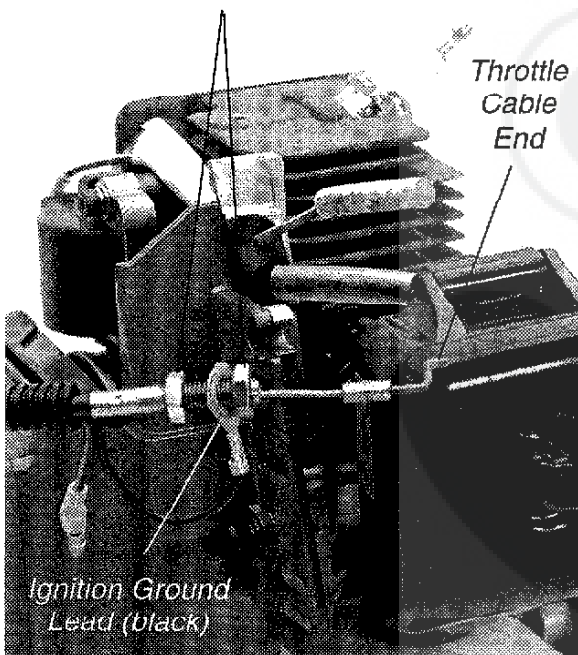

Figure 9
1. Loop the ribbed cable assembly to the top left side of the engine. Notice that the black ground wire (with a ring fitting on the end) is located between the two cable adjuster nuts as shown in Figure 9.